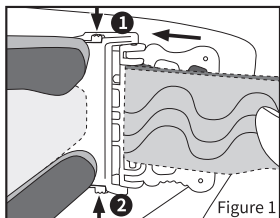

Figure 1
Step 2 then depress the lower locking tab on the gray frame retention clip and push the gray frame retention clip forward. Perform this on both sides of the mask. (See figure 1) You can also use the Cyan locking hook finger grooves to assist you in sliding the unit forward when pushing the tabs to clear the release hook.